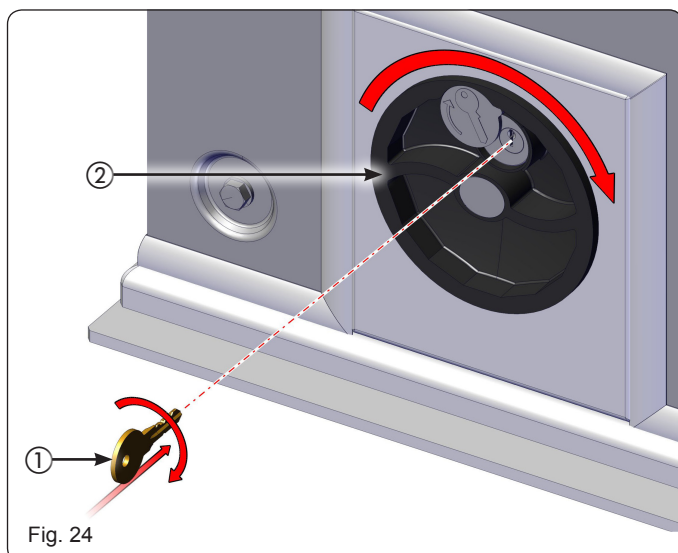

Fig. 24
1. Insert the provided key and turn clockwise (Fig. 24 ref. ①).
2. Turn the release system clockwise until it reaches the mechanical stop (Fig. 24 ref. ②).